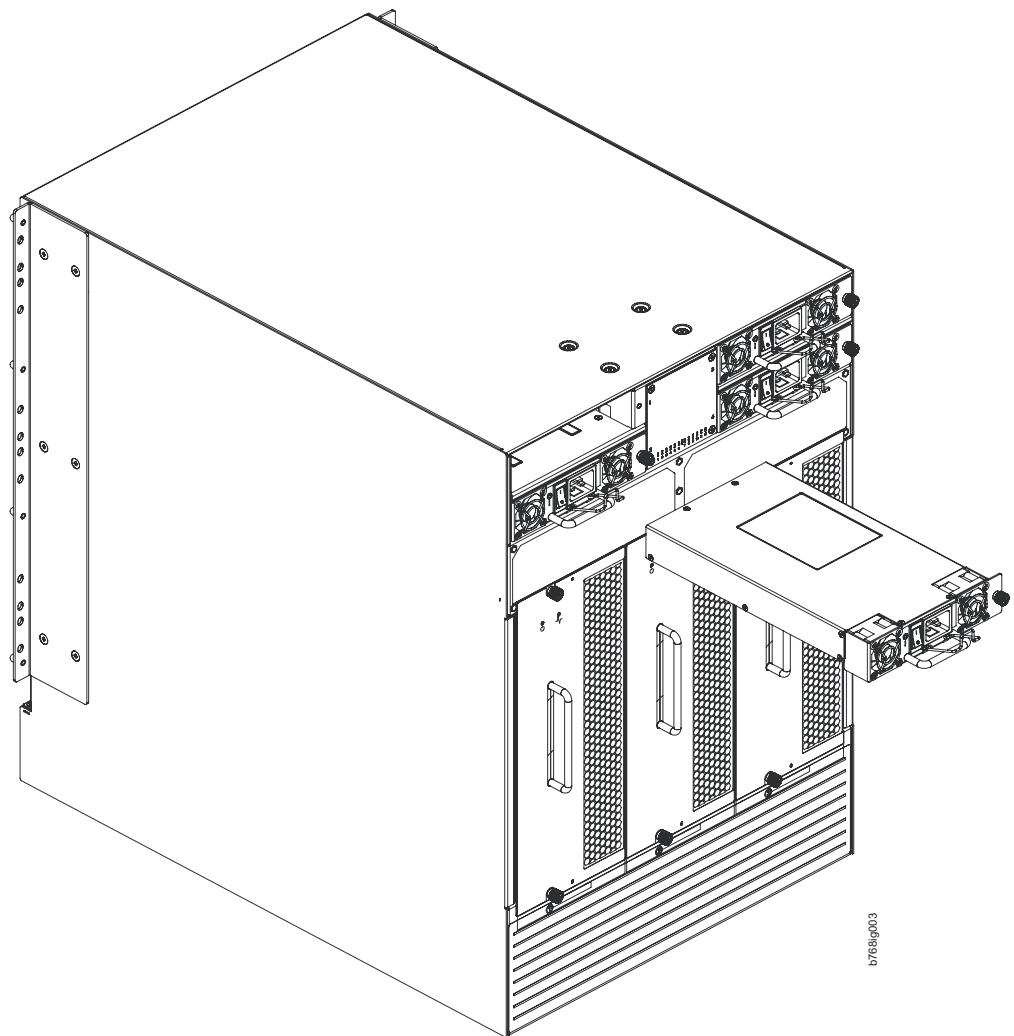

Figure 37. Removing and installing a power supply
5. Grasp the handle and pull, sliding the power supply from the chassis, supporting the power supply from beneath as you remove it. (see Figure 37).